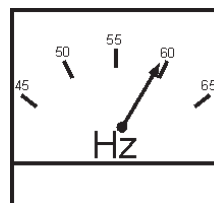

Figure 51. Frequency Meter (Hz)
10. The generator's frequency meter (Figure 51) displays the 60 cycle output frequency in **HERTZ**.